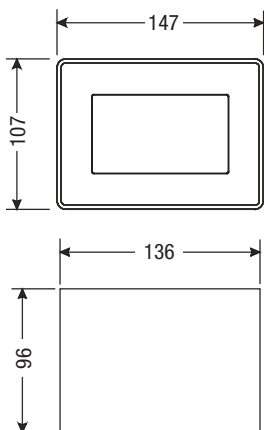
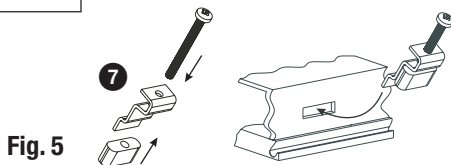

Fig. 3
Fig. 5
- Provide a control panel cut-out with the dimensions indicated in **Fig. 3 and 4**.
- Insert the operating & display unit into the control panel cut-out. Make sure the gasket ⑥ is properly seated.
- Insert and fasten the screws **Fig. 5** until the edges of the frame are flush with the panel of the control cabinet.